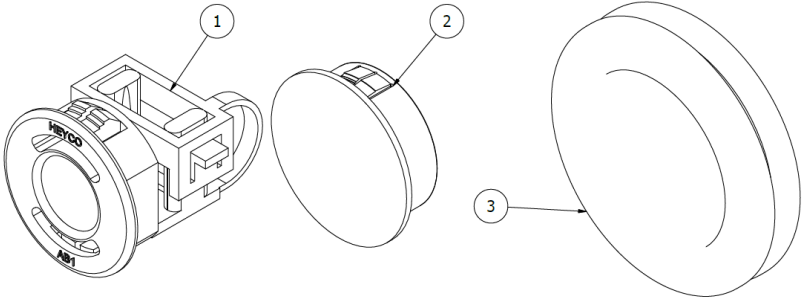

Figure 8: Cable and tube interfaces
- Move the cable strain relief fittings to the side you wish to make the entries / exits. Cover all other holes in the enclosure with the supplied blanking grommets. (Figure 8).
- Mains cold water supply should be connected to Heat Battery connection 'A'. The hot water outlet should be connected to 'D'. Heat Pump Flow should be connected to Heat Battery connection 'C' and Heat Pump Return should be connected to Heat Battery connection 'B'. (see Figures 8, 11.1 and 12.1).
- Wire the cable via the appliance case grommets and into the control box housing (Figures 8,12.1 and 12.2).